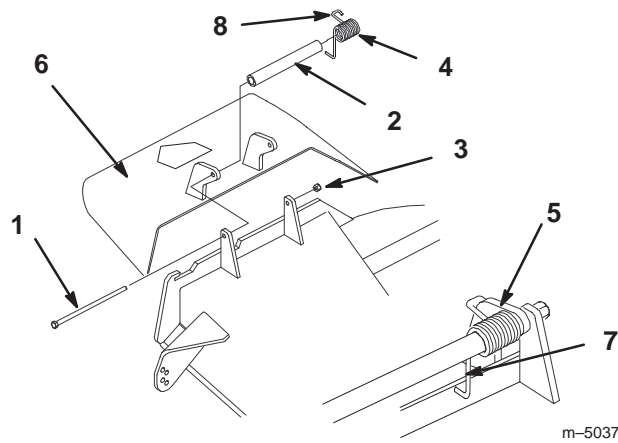

Figure 73
1. Remove the locknut, bolt, spring and spacer holding the deflector to the pivot brackets (Fig. 73). Remove damaged or worn grass deflector.
Note: Make sure the L end of spring is installed behind deck edge before installing the bolt as shown in figure 73.
3. Install bolt and nut. Place J hook end of spring around grass deflector (Fig. 73).